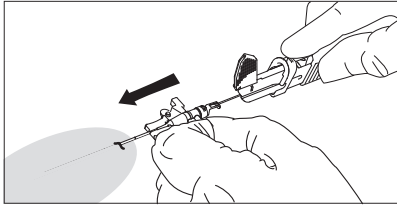

Figure 8
11. While firmly holding device needle/handle stationary, advance catheter over guidewire into vessel with the opposite hand (refer to Figure 8). Advance catheter using a continuous, controlled, slow, forward motion. Catheter should advance smoothly without resistance.